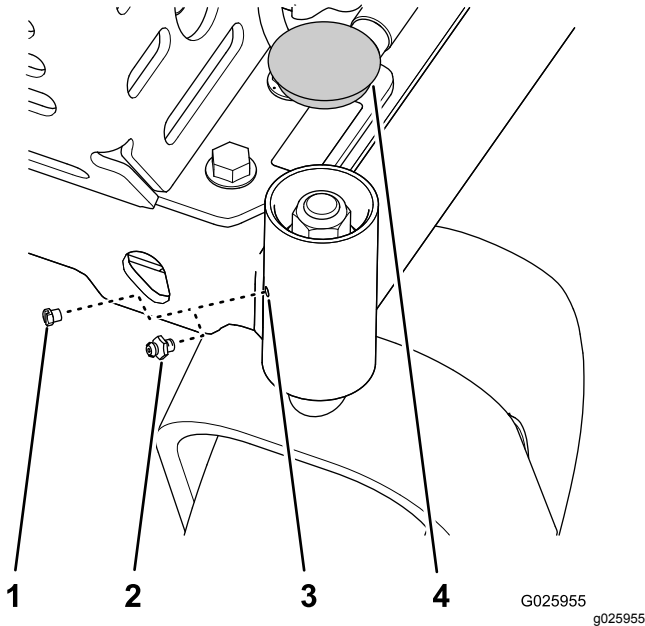

Figure 27
1. Remove cap and hex plug from the top of the caster pivot (Figure 27).
2. Thread grease fitting in hole (Figure 27).
3. Pump grease into the fitting until grease oozes out around top bearing (Figure 27).
4. Remove grease fitting and install the plug that you removed in 1 (Figure 27).
5. Install the cap that you removed in step 1 (Figure 27).